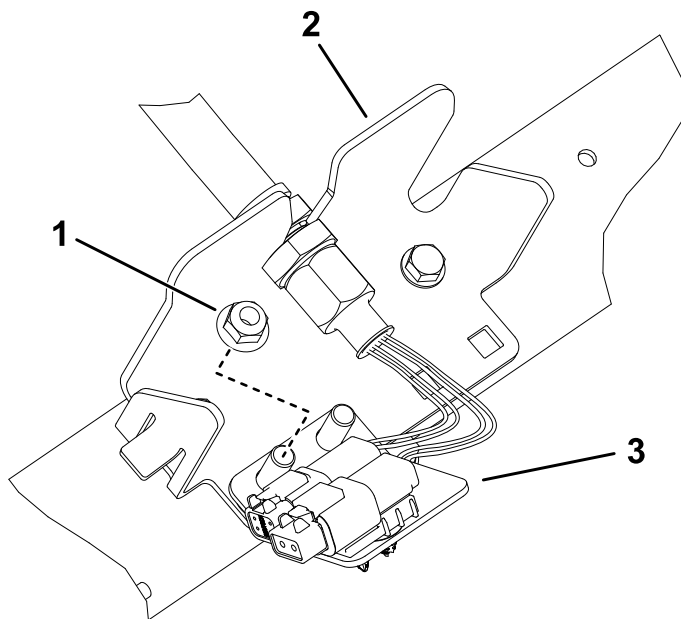

Figure 30
6. Repeat the procedure on the remaining 4 bulkhead locations as shown in Figure 27 through Figure 30.